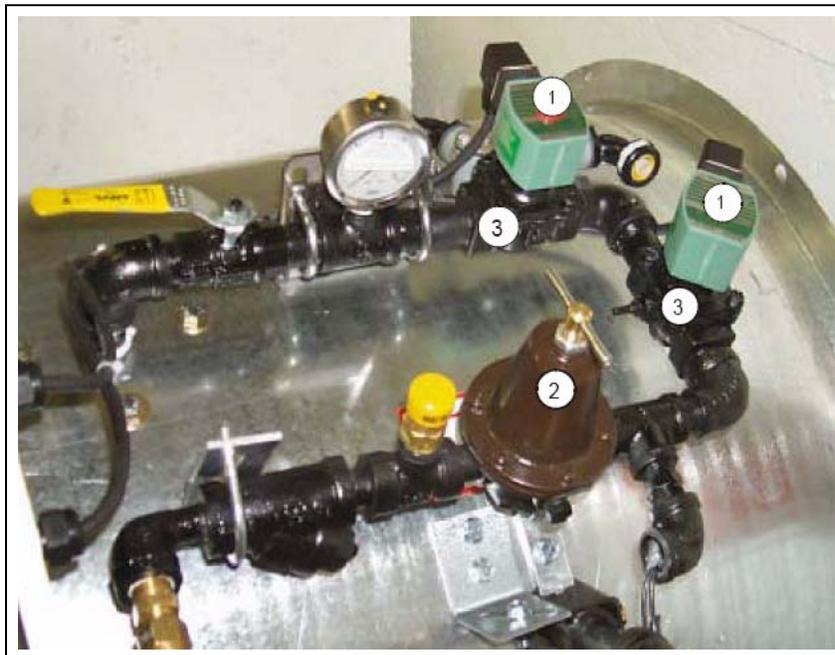

Figure 7E
1. **Flame sensor:** Disconnect the wire connector and unscrew the flame sensor out of its mounting bracket. (See Figure 7E.) **IMPORTANT:** Flame sensor has voltage present. Turn OFF main disconnect before removing or adjusting.
2. **Gas solenoid valve coil:** Unsnap either the plastic cap or the metal clip on the gas valve and slide the housing and coil off the valve stem and body. Do not energize the coil when it is removed, as the coil may become damaged due to excessive current flow. (See Figure 7E.)
3. **Regulator and gas solenoid valve(s):** The gas regulator and solenoid valve(s) are directional and must be connected as indicated by the markings near the port openings. Make sure gas is shut OFF and purged from the system before removing parts. (See Figure 7E.)
4. **Main Gas Orifice:** With fuel shut OFF and gas purged from system (See Figure 7E), proceed as follows:
5. **Reassemble:** To reassemble parts (*See Figure 7E*), reverse the disassembly procedure and check the following:
Figure 7E shows: